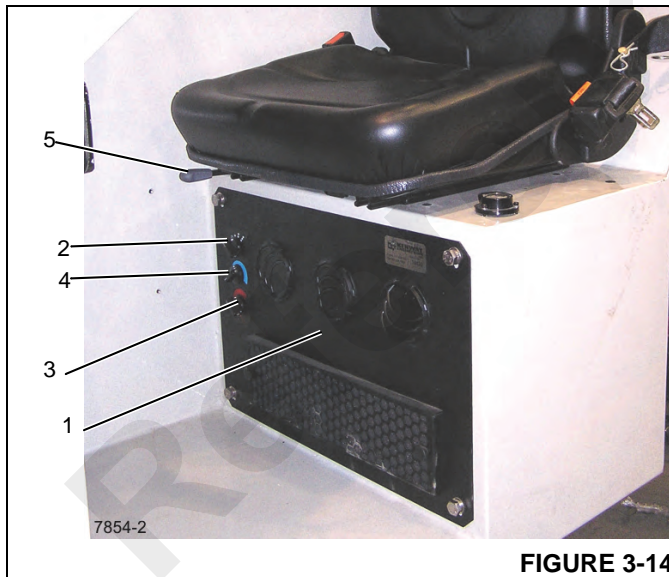

FIGURE 3-14
The cab heater/air conditioner (furnished as an option with enclosed cabs) is located under the operator's seat (1, Figure 3-14).
To operate the heater, use the fan switch (2, Figure 3-14) in conjunction with the heater control (3) to select the desired fan speed and amount of heat.
To operate the air conditioner, use the fan switch (2, Figure 3-14) in conjunction with the air conditioner control (3) to select the desired fan speed and amount of air conditioning.
Seat Fore & Aft Adjustment - To adjust the seat, move the control lever (5, Figure 3-14) to the right. Move the seat to proper position and then move the control lever back to the left to lock the seat position.